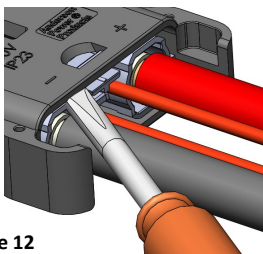

Figure 12
*If necessary to disassemble the connector, follow these instructions (Figure 12):*